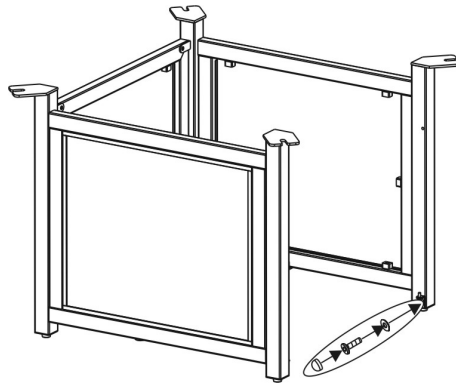

Figure 4
4. Attach a connector to the right side panel by using a 1/4"x15 mm bolt and washer as shown in Figure 4. Guide bolt through the hole in the connector, into pre-drilled hole in the right side panel. **Do not over-tighten.**